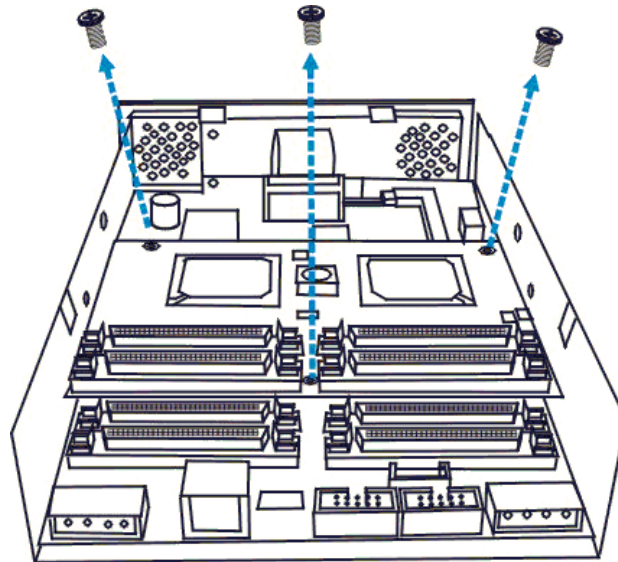

Figure 2-8: Install the Daughter Board Retention Screws
- Step 3.** *Insert the retention screws.* Once the daughter board has been mounted on the board-to-board connectors, insert the retention screws that came with the daughter board. (See *Figure 2-8*)